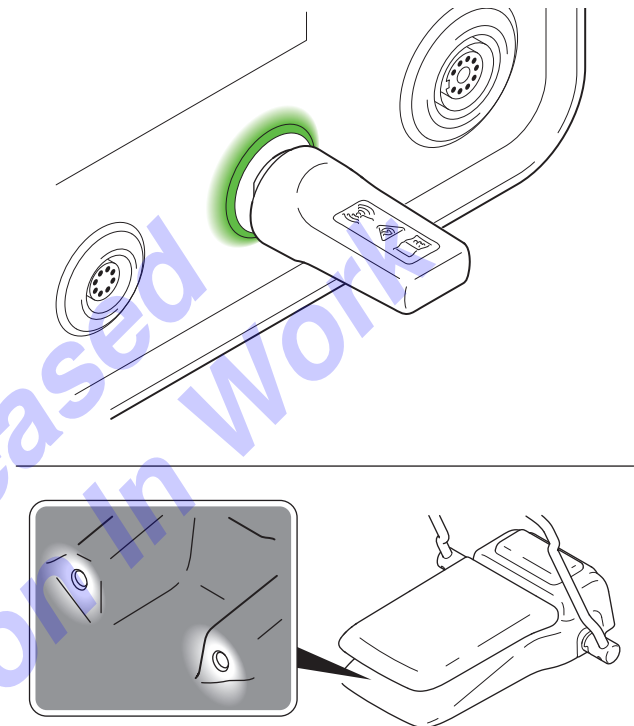

Figure 49 – Successful Wireless Foot Pedal Pairing
- A green console port indicator confirms a successful connection (Figure 49).